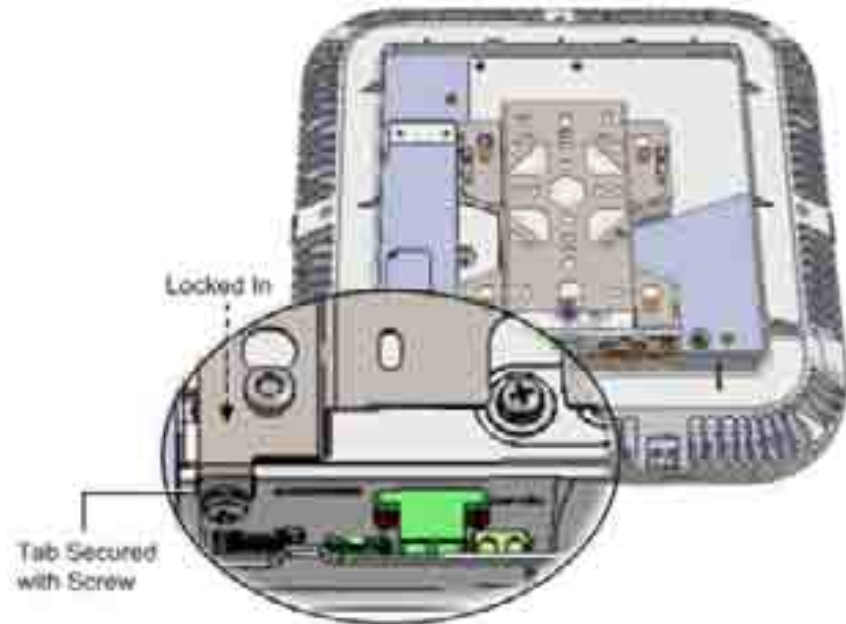
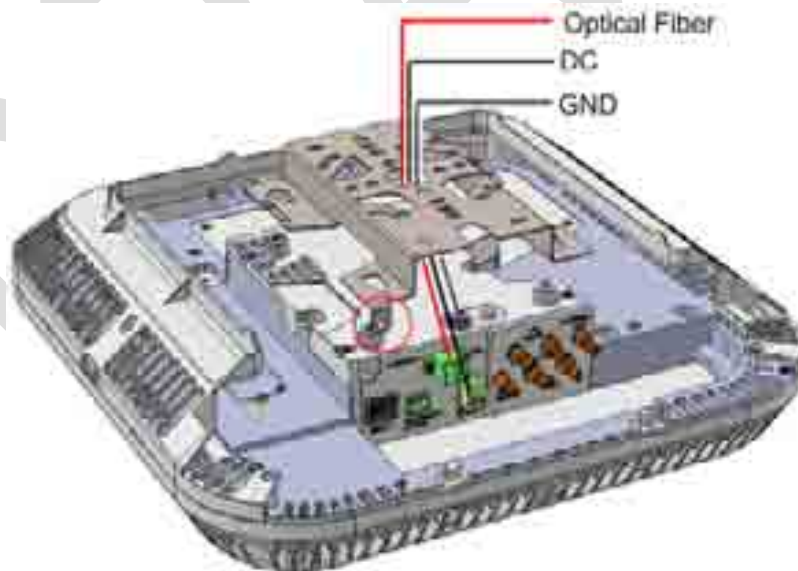

Figure 5-85. RAU and Bracket Assembly
Figure 5-86. Mounting RAU onto Mounting Bracket
2. Referring to Figure 5-85 and Figure 5-86, insert the RAU pins (four) into the bracket key-holes and lock in.
Note: The safety screw tab (circled in Figure 5-86) should be in the same direction of the RAU connectors.
3. Secure the bracket safety screw tab to the RAU using an 8-32X3/8, Pan Head, Philips screw (provided). See Figure 5-85.